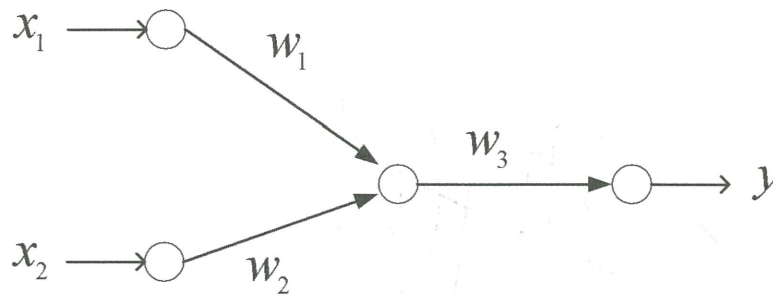

FIGURE Q3
- Q3** (a) A Steepest Descent Backpropagation (SDBP) neural network is represented in Figure Q3. The initial weights of the networks are: $w_1 = 0.01$, $w_2 = -0.01$ and $w_3 = 0.11$. Activation function for hidden layer and output layer is $f(net) = \frac{1}{1 + e^{-net}}$ with a learning rate (η) at 0.6. Neural network is used to evaluate input $x_1 = 0.2$, $x_2 = 0.3$ and target $t = 0.15$.
- (c) Explain six (6) fuzzy inference system considerations related to neuro fuzzy. (9 marks)